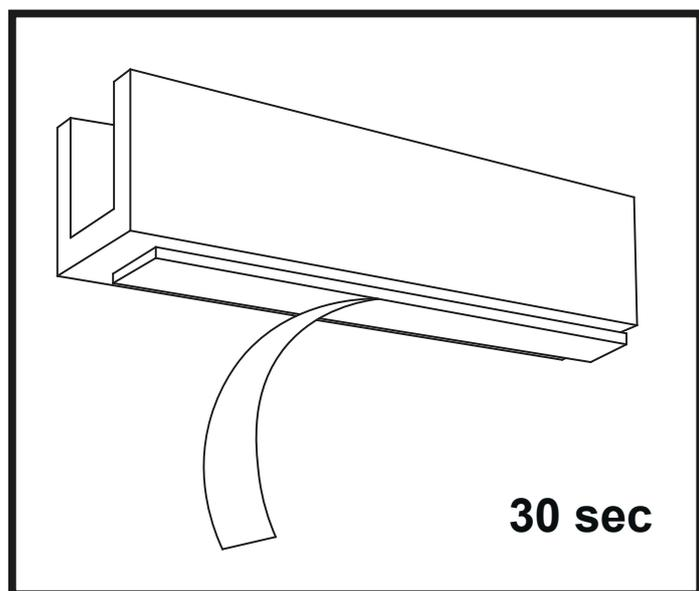

Figure 12
27. Remove the backing film from the double-sided tape on the profile and place the profile on the floor in the marked location. Press the lath firmly, holding the pressure for about 30 seconds. (Figure 12)